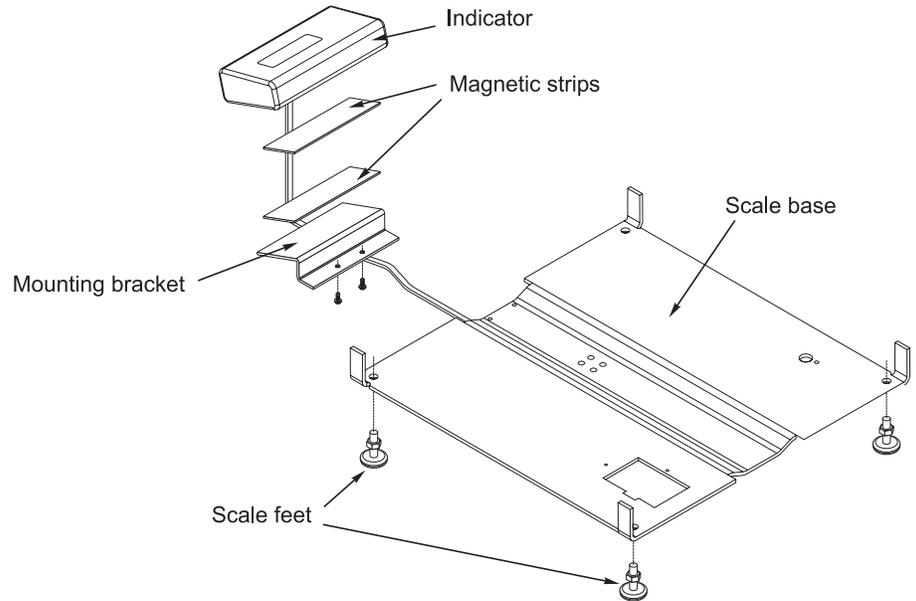

Figure 5
The display mounting kit includes the hardware necessary to attach the remote display to the scale base. For the 100 to 250 lb capacity 14 x 14 inch bases, use the bracket shown in Figure 5 (PN1067-17224).
2. Place a cable twisty (supplied on original display assembly) thru the two holes on the vertical side of the display bracket so that the ends point toward the back of the sloped display mounting surface. Twist once to hold in place until ready to secure the excess display cable. (See Figures 5 and 6 for mounting drawings.)